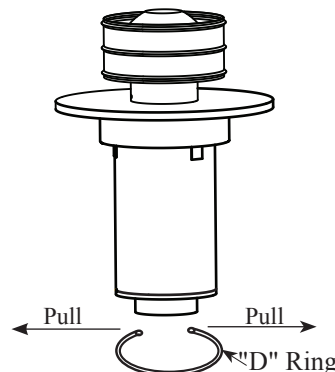

Figure 3 -Upper Roof Jack Module
- 5 Selecting the roof jack module.** The Co-axial vent roof jack is divided into two modules. The lower module (See Figure. 4) should be installed on the water heater at the factory location. The upper roof jack module (See Figure. 3) should remain in the co-axial carton box and shipped inside the manufactured home for assembly and setup at the permanent location of the home.
A. Disassemble the upper roof jack module by expanding the "D" ring as shown in Figure 3. **DO NOT** remove the silicone band attached to the 3" pipe; it will be used for final assembly at the permanent location of the home.
C. Place the upper roof jack module back into the carton. Seal the carton with the bright orange Carton Warning Label (F) supplied. Make sure the carton box ships with the manufactured home for final assembly of the vent system at the permanent location of the home.